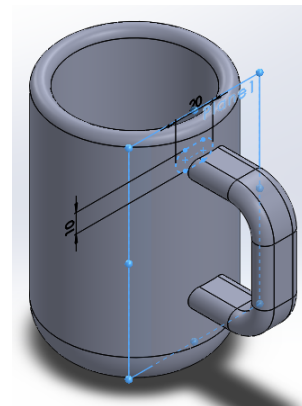
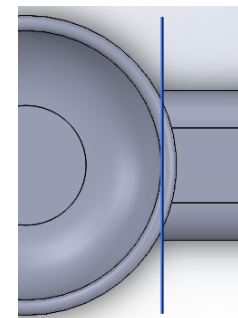

Fig6
Fig7
- Other idea can be to place the sketch onto a new plane which is tangential to the *inner* cylindrical surface of the part (Fig6). This solution is wrong seems to be quite good but imagine what would happen if later the wall thickness were changed to be much smaller (Fig7).